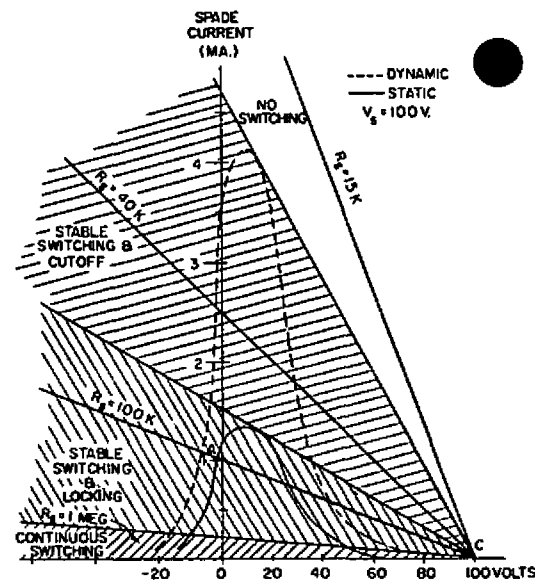

Figure 5
When the potential of all the spades is positive, the tube is in a cut-off or clear condition with no beam formed to any position. The beam may be formed in any of its ten "on" positions by sufficiently lowering the potential of the respective spade. A typical static beam forming and locking characteristic is shown in Figure 5, intercepted by a load line of  $R_s = 100 \text{ K}$ . This negative characteristic results in bistable points at A and C. Thus, the one spade forming and locking the beam is at near-cathode potential, point A, while the remaining ones are at a high positive level. In practice, either a DC potential or a very high speed pulse may be used to form the beam. The very wide range of reliability of the function of  $R_s$  is indicated in Figure 5.
A voltage drop on the switching grid will disturb the electric field so that enough of the beam is deflected to the leading spade to cause that spade to assume its other stable state (A). The beam will now be formed on this spade with the dynamic spade characteristic shown in Figure 5.